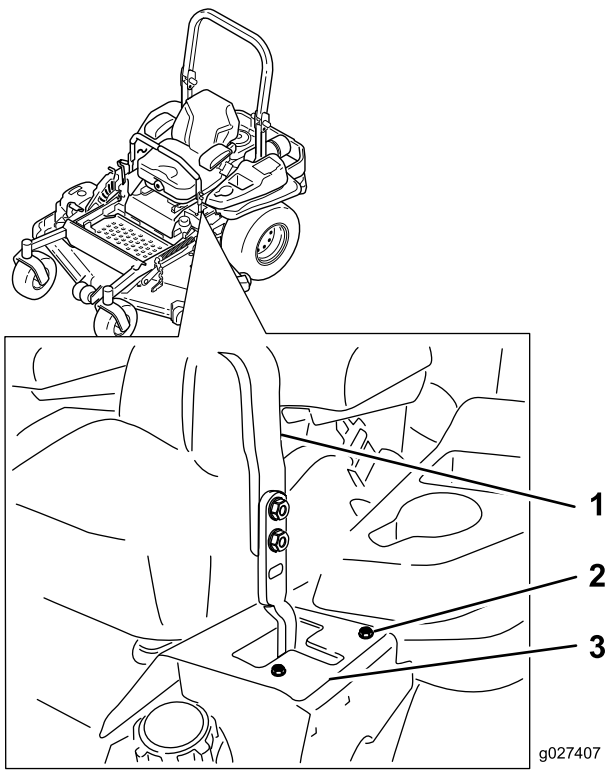

Figure 63
6. If it tracks to the right, loosen the bolts and adjust the left stop plate rearward on the left T-slot until the machine tracks straight (Figure 63).
7. If it tracks to the left, loosen the bolts and adjust the right stop plate rearward on the right T-slot until the machine tracks straight (Figure 63).
8. Tighten the stop plate (Figure 63).